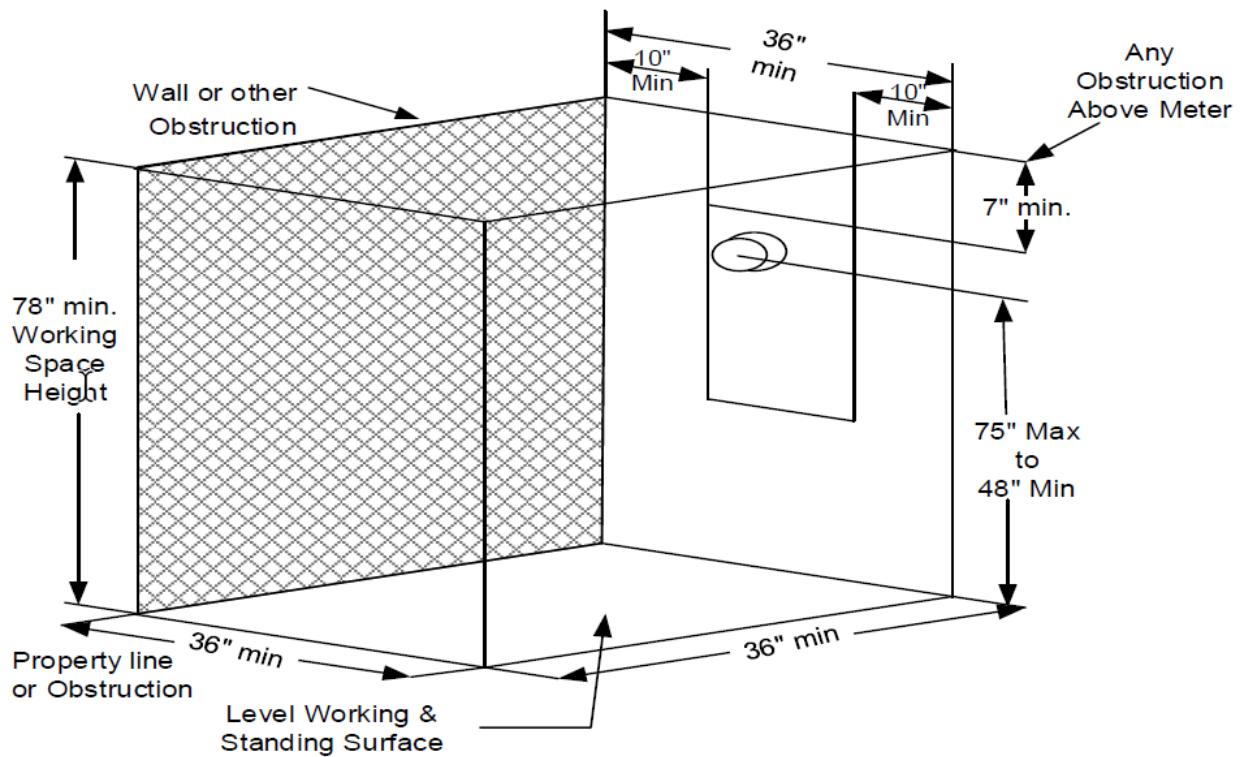

Figure 5. Safe Work Space and Clearances Around the Meter
- RPI-2 - Working space at meter enclosures shall extend 36 inches from the front of the meter enclosure, with a clear height of not less than 78 inches. The width of clear space shall be not less than 36 inches with a minimum 10 inches from the side of the service enclosure to the nearest obstruction or wall. See Figure 5.
- RPI-2 - The meter height for single meter services shall be not less than 48 inches to center and not more than 75 inches to center from the standing surface. See Figure 5.